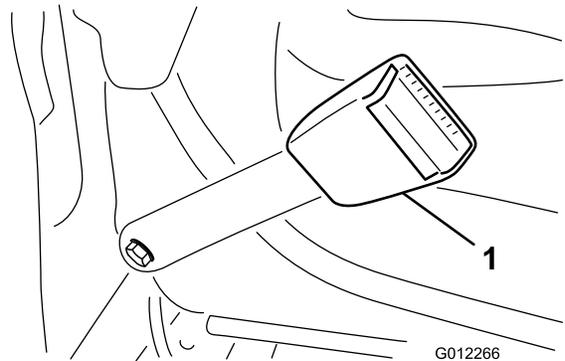

Figure 6
1. Assemble the end of each seat-belt latch to the holes in the back of the seat with 2 bolts (7/16 x 1 inch), flat washers (7/16 inch), and lock washers (7/16 inch) (Figure 6).